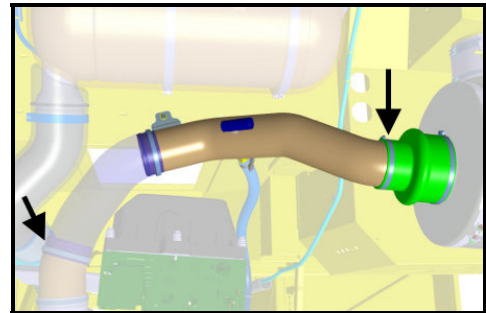

FIGURE 28
21. Install the air intake pipe assembly. Install the hose clamps at the air filter housing and the turbocharger inlet (fig.28). Position the clamps and tighten to secure.